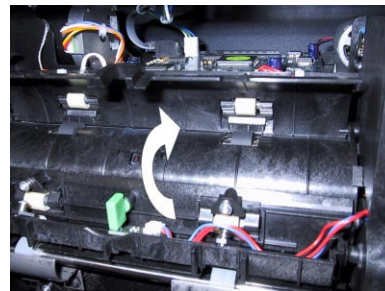

Fig. 7-9. Unlock and lift upper access door to check for stuck notes.
8. Release the **upper access door** (refer to **Figure 7-9**). Gently lift the door to expose the feed path. Remove any notes.